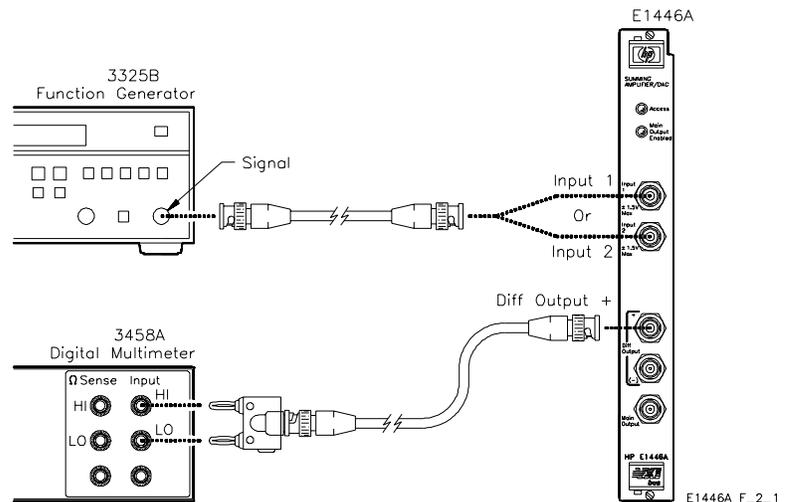

Figure 2-1. Input Attenuation Test Setup
- Connect the DMM to the amplifier as shown in Figure 2-1
3. Connect the Source to Input1 as shown in Figure 2-1.
10. Connect the Source to Input2 as shown in Figure 2-1.